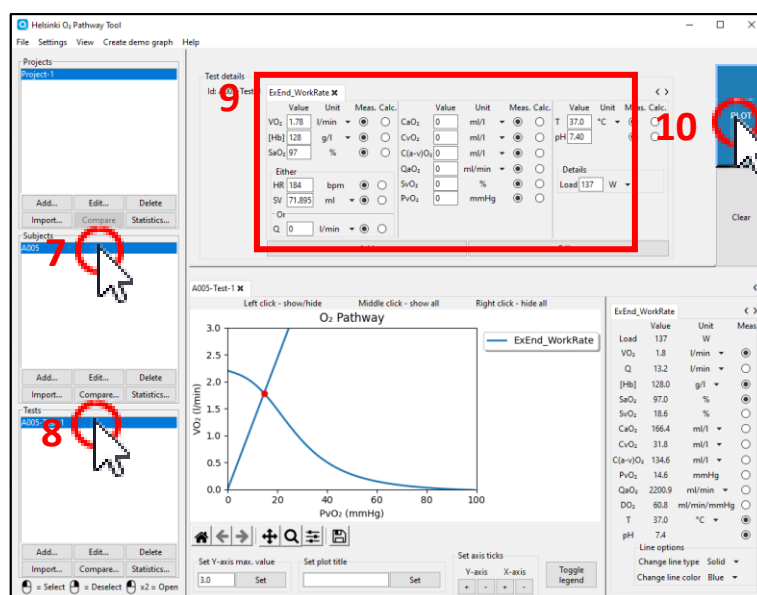

Figure 40
7. Click a subject to make it active in the side panel (figure 40).
8. Double left click on a test in the side panel's test module (figure 40).
9. The imported data is shown in the test details module (figure 40).
10. Click the “Plot” button and the figure is created (figure 40).